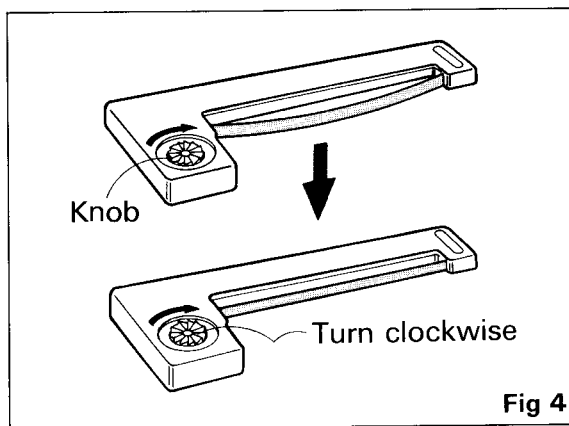

Fig 4
4. Turn the Switch "ON" and insert the Paper Tip as you see in Fig 4.